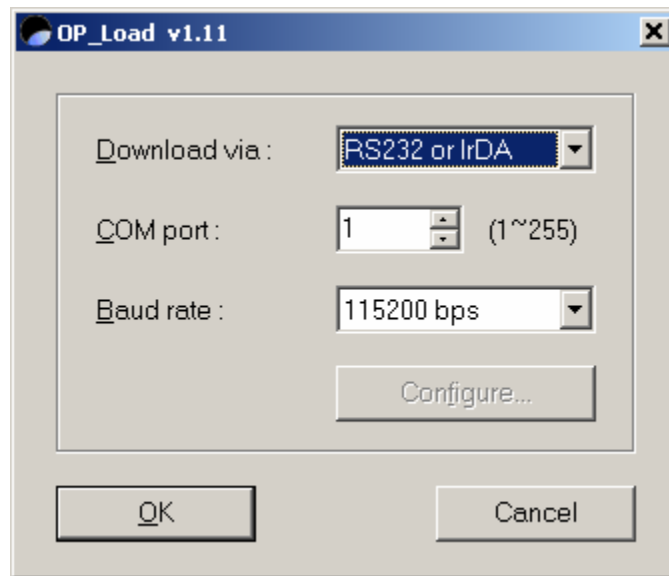

Figure 2: Download Window
7. From the Optimizer program, choose the “Tools” menu item, then “Communication”, and finally “Download Program”. The Optimizer window will minimize and the download window will open (see **Figure 2**).
7. From the Optimizer program, choose the "Tools" menu item, then "Communication", and finally "Download Program". The Optimizer window will minimize and the download window will open (see **Figure 2**).